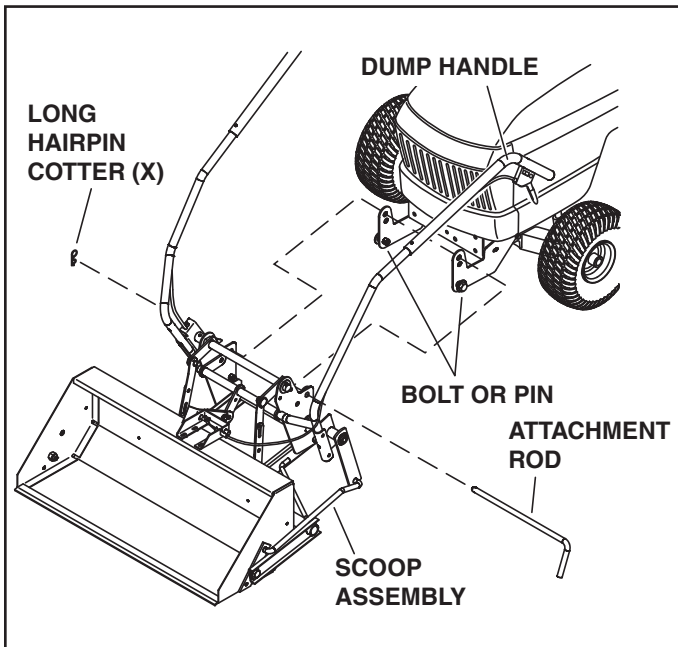

FIGURE 23
STEP 24: MOUNT SCOOP TO TRACTOR (SEE FIGURE 23)
- Align the scoop with the side plates on the front of the tractor. Lift the rear of the scoop and slide the notches in the scoop frame onto the bolts or pins in the tractor side plates. Stand on the left side of the tractor and push down on the scoop dump handle until the holes in the scoop frame and the holes in the side plates are aligned. Install the attachment rod through the holes from the left side and secure it with a long hairpin cotter (X).